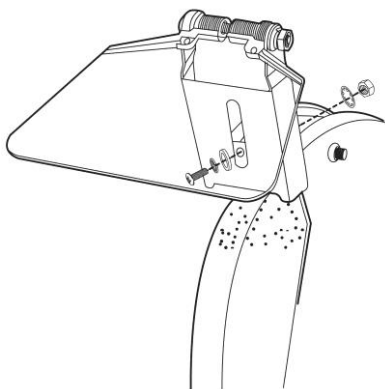

Fig.2
1. Align the slit on the spark deflector (5) with the hole on the top of the wheel guard (6).
3. Thread a screw (10a) through the spark deflector slit (5) and the hole on the top of the wheel guard (6) (Fig.2).